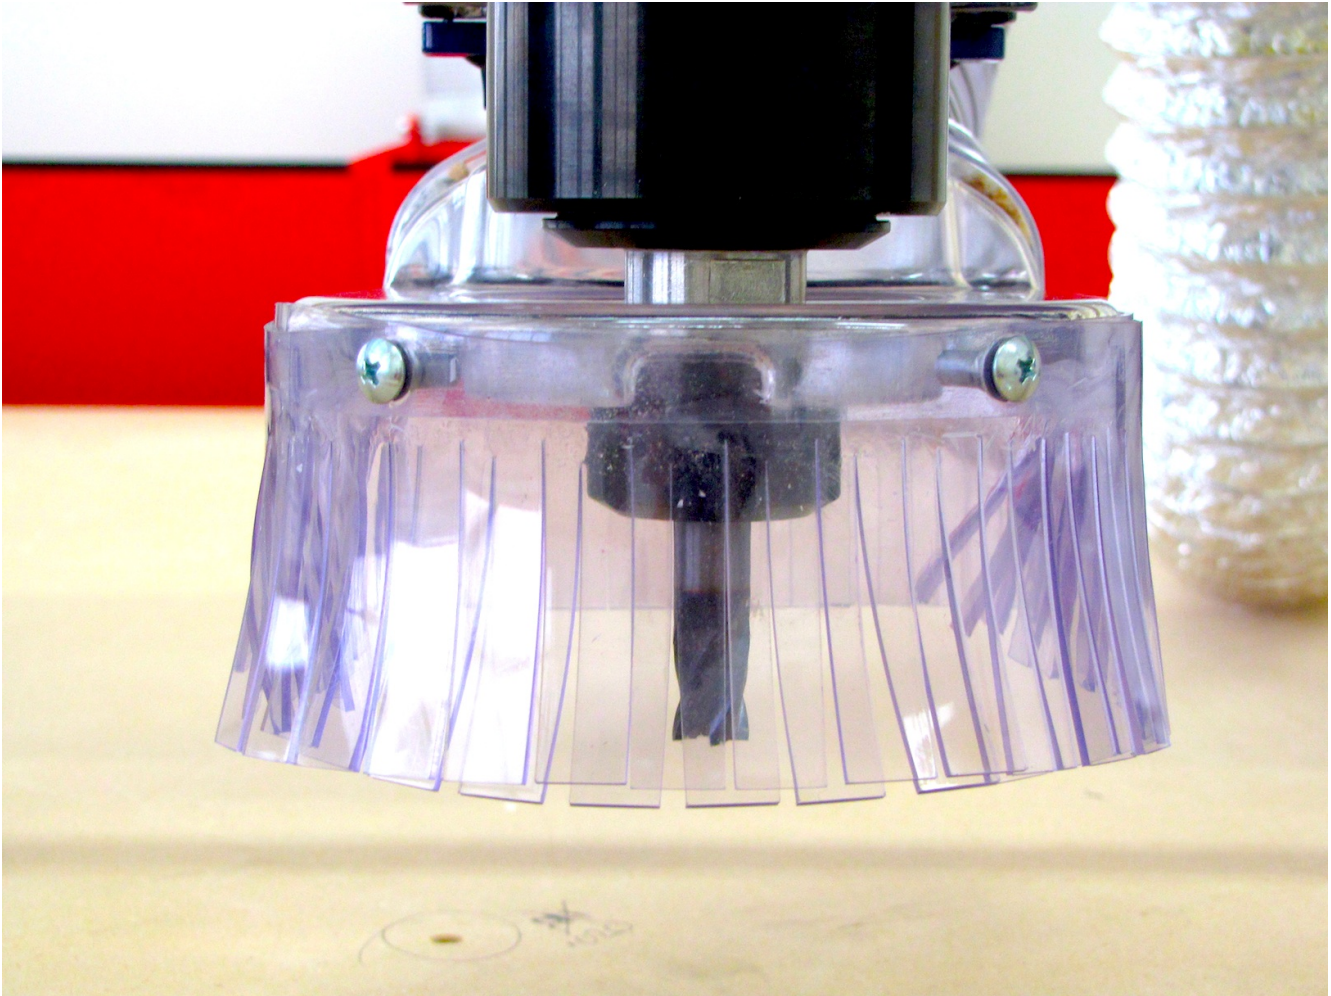

Figure 20: Dust Skirt
20. Now you can **RAISE UP** the **DUST SKIRT** cover all the way up and lock into place (Figure 20).